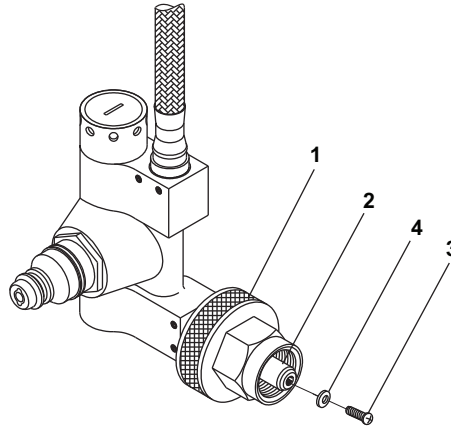

Figure 6-40. RIC/UAC Assembly
- (1) Bleed the system IAW paragraph 6.5.1.
- (2) Rotate the hand coupling (figure 6-40, item 1) counterclockwise and remove the RIC/UAC assembly from the cylinder valve.
- (3) Hold the respirator seat gasket shaft (figure 6-40, item 2) under the hand coupling (figure 6-40, item 1) with a 7/16 in. open-end wrench while using a 1/8 in. Allen wrench to remove the retaining screw (figure 6-40, item 3) from the center of the respirator seat gasket shaft and set aside for installation.
- (4) Remove the respirator seat gasket (figure 6-40, item 4) and discard.
- (1) Inspect the new respirator seat gasket (figure 6-40, item 4) for any damage. Replace as required.
- (2) Install the respirator seat gasket (figure 6-40, item 4) onto center of respirator seat gasket shaft (figure 6-40, item 2).
- (3) Hold the respirator seat gasket shaft (figure 6-40, item 2) under the hand coupling (figure 6-40, item 1) with a 7/16 in. open-end wrench and use a 1/8 in. Allen wrench to install the retaining screw (figure 6-40, item 3) into the center of the respirator seat gasket shaft.
- (4) Rotate the hand coupling (figure 6-40, item 1) clockwise to connect the RIC/UAC assembly to the cylinder valve.
- (5) Perform a leak check IAW paragraph 6.5.2.